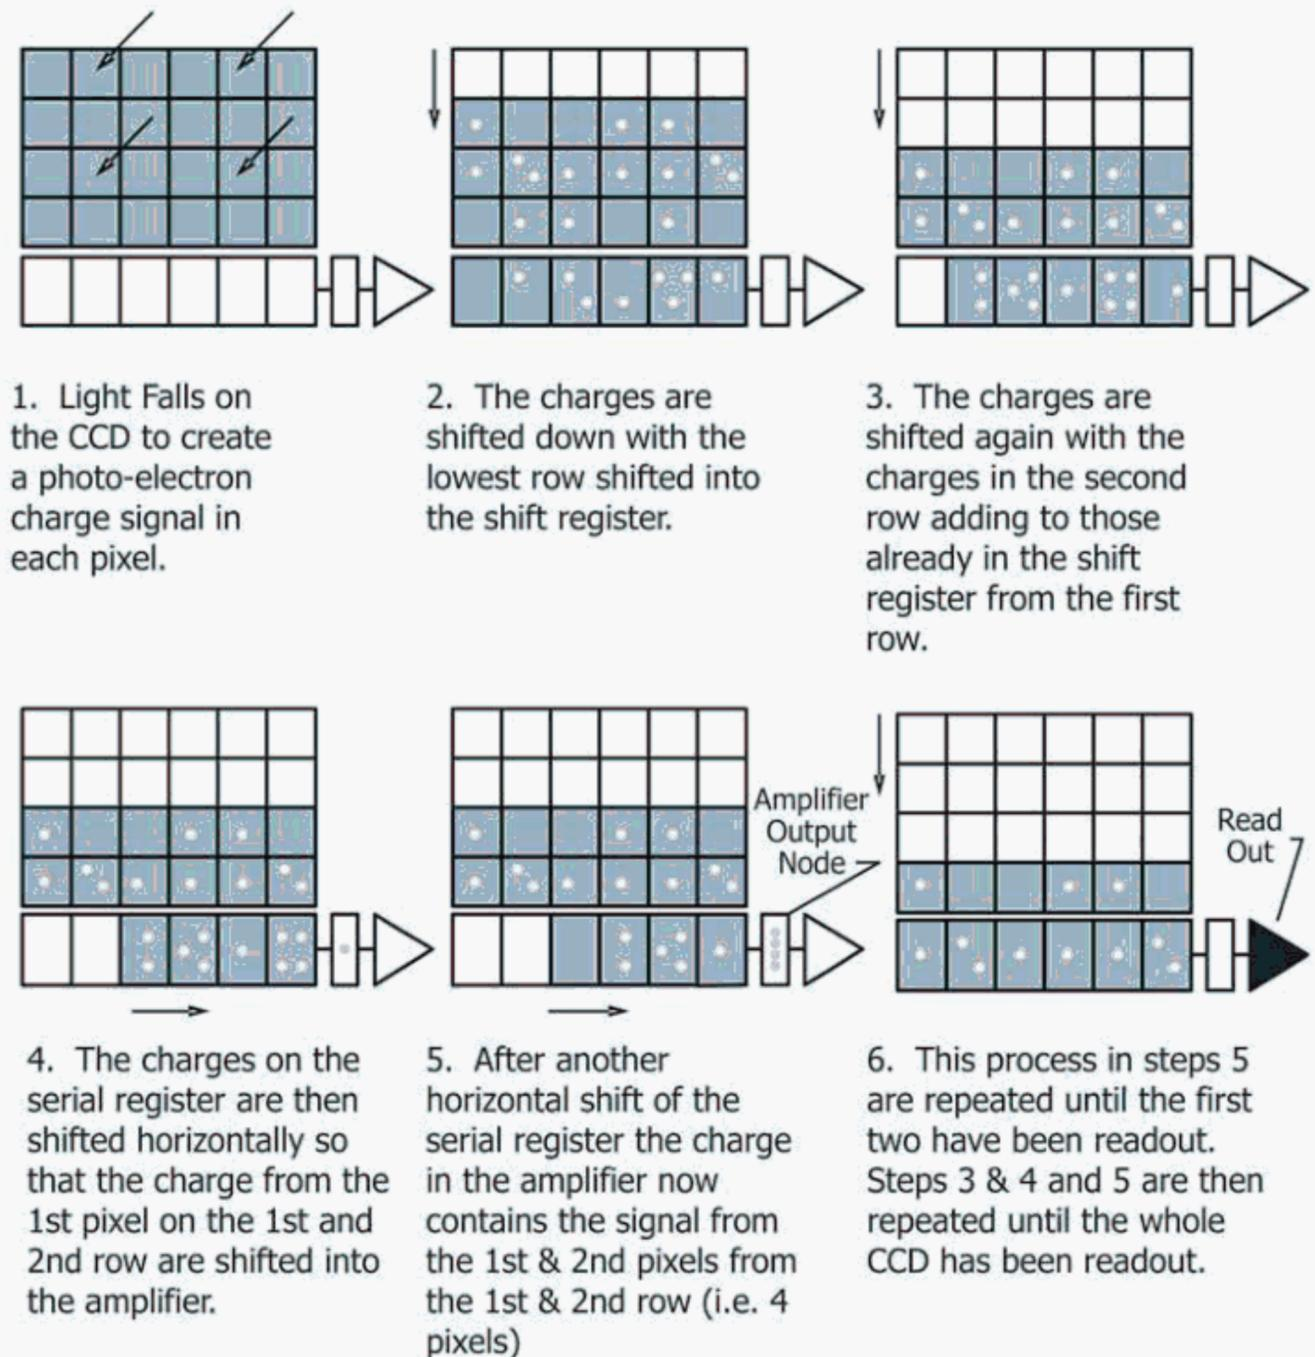

FIG. 2 Example of a 2 × 2 Vertical and Horizontal Binning Methodology
DISCUSSION—There are two main types of binning: (1) vertical binning and (2) horizontal binning (see Fig. 2). Summing charge on the CCD and doing a single readout results in better noise performance than reading out several pixels and then summing them in the computer memory. This is because each act of reading out contributes to noise (see **noise**).
**horizontal binning,  $n$** —the process that allows charge from a row of pixels to be combined on the CCD chip prior to readout (See Fig. 2). Horizontal binning is commonly used